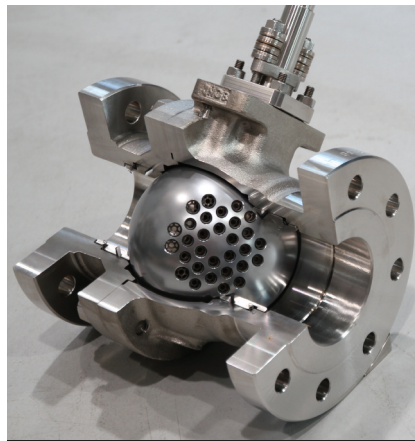

Figure 1. Trim designed to reduce aerodynamic noise
Figure 1 shows a rotary control ball valve with a trim design that incorporates pressure staging, flow division, peak frequency shifting and velocity control within one rotary control device, in this case a ball valve. This design concept, which was introduced more than two decades ago, has been refined recently to provide greater precision in attenuating high aerodynamic noise levels in gas and steam applications. The result is noise attenuation that is increased from 15 dBA to 30 dBA. Users with noise control issues within gas and steam control loops should be aware that new trim technology addresses aerodynamic noise specifically.
□ Figure 1. API valve being set up for emissions testing